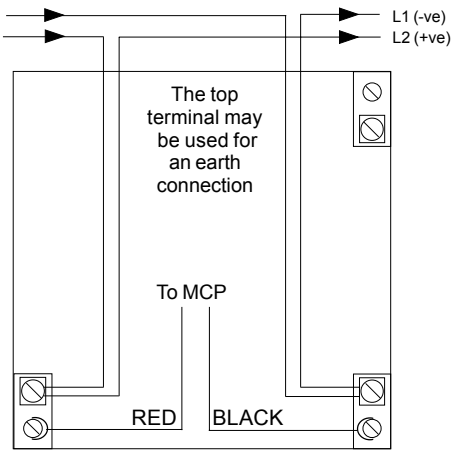

Fig 1. Backbox Connection Diagram
2. Run the cables from the XP95 loop into the box and connect them as shown in Fig 1. Ensure that earth continuity is maintained.
5. Undo the small front cover retaining screw and remove the call point front cover. Remove the 'NOT IN USE' insert. Connect all cables as shown in Fig. 1, secure the call point to the backbox and fit either the 'NOT IN USE' insert or the glass as required. Finally, replace the front cover.